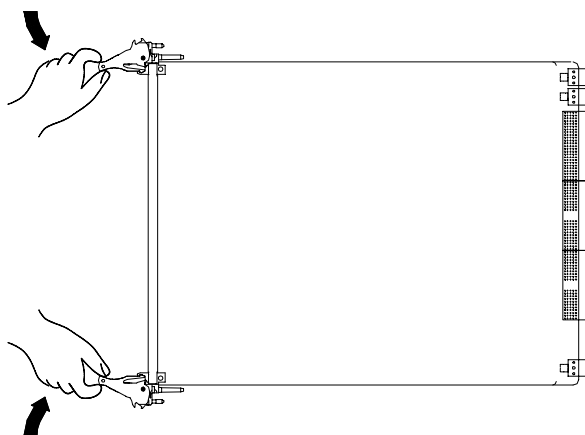

Figure 3-7 Installing a board (2)
- 8) Turn the two ejector levers towards the middle of the panel to fix the board, as shown in Figure 3-7.